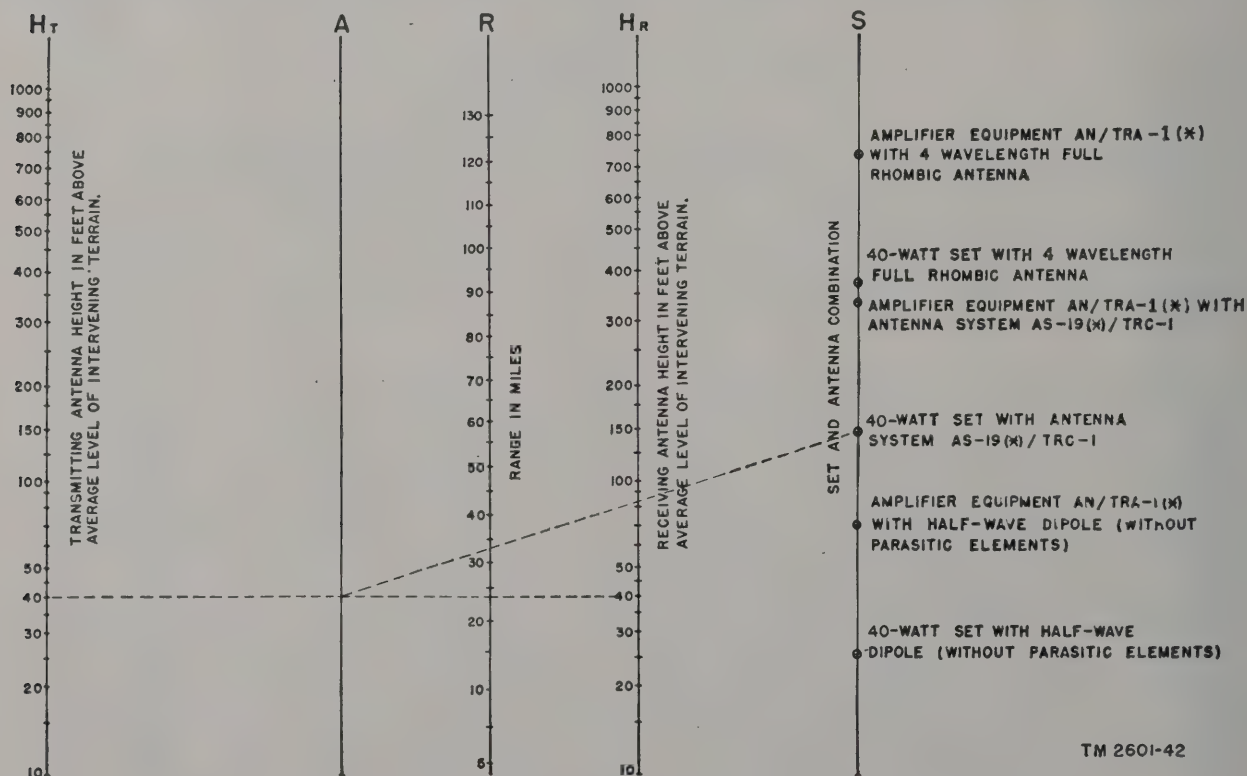

Figure 51. Nomograph for calculating approximate maximum range of radio relay equipment.
The communication range of Radio Set AN/TRC-1(*), Radio Terminal Set AN/TRC-3(*), or Radio Relay Set AN/TRC-4(*), with or without Amplifier Equipment AN/TRA-1(*), over an unobstructed path can be estimated quickly without mathematical computations by using figure 51. The following facts must be known to make use of figure 51: the height in feet of both the transmitting and the receiving antennas above the average level of the intervening terrain, the types of transmitting and receiving antennas being used, and the r-f power
- (1) *Antenna height (HT and HR) scales.* For transmission paths over flat or gently rolling terrain or over sea water, the values of antenna heights used should be the height of the center of the antenna above the average level of the intervening terrain. If the transmitting or receiving antenna is located on top of a high hill with comparatively flat lowland in the transmission path, add the elevation of the hill above the average terrain level to the height of the antenna mast.
- (2) *Scale A.* This scale is arranged midway between the HT and HR scales to calculate automatically the average height of the transmitting and receiving antennas.
- (3) *Set and antenna combination scales.* The value of power used has been calculated as power in watts delivered to the antenna multiplied by the transmitter antenna gain; it is based on the signal strength required for multi-channel operation.
- (4) *Range-in-miles scale R.* Resulting reliable range in miles is obtained directly from the calibration of this scale.
b. *USE OF NOMOGRAPH (fig. 51).* To determine the expected range, place a straight edge between the point on the transmitting antenna height scale, HT, and the point on the receiver antenna height scale, HR, corresponding to the transmitter and receiver antenna heights, respectively. Hold a pencil or other sharp object at the point of intersection of the straight edge